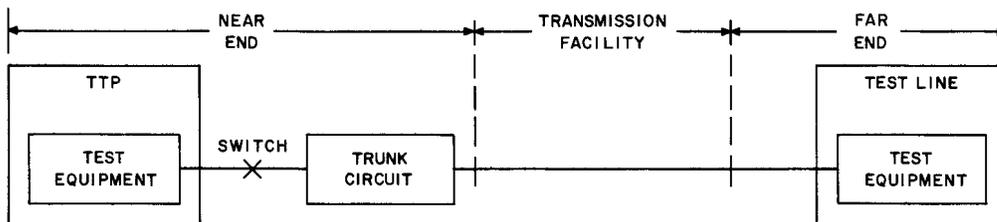

Fig. 2—Transmission Measurement to Foreign Exchange Trunk
3.02 When testing foreign exchange (FX) trunks, use the following steps to connect TTP, FX and test line instead of the steps given in each test (Fig. 2).